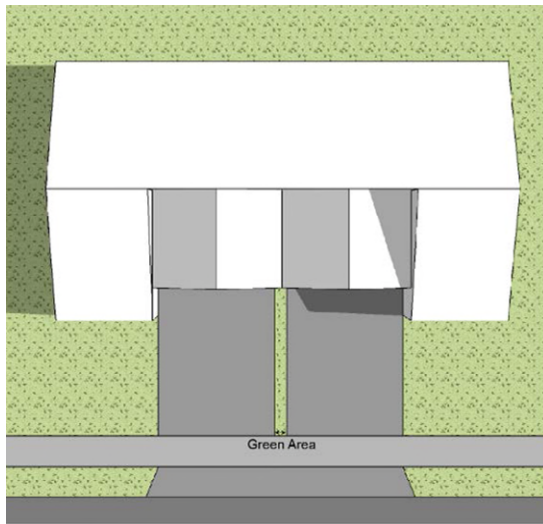

Fig. 4: Two-Family Drive Separation
- d. Driveways for two-family dwellings with adjacent garages are limited to the 25 feet maximum width at the property line for each individual driveway. Each individual driveway may be separated by a minimum of a two-foot buffer area extending the full length from the property line to the garage/uncovered parking space. The separation area shall contain vegetation or other feature designed to limit vehicular trespass. See Figure 4: Two-Family Drive Separation.